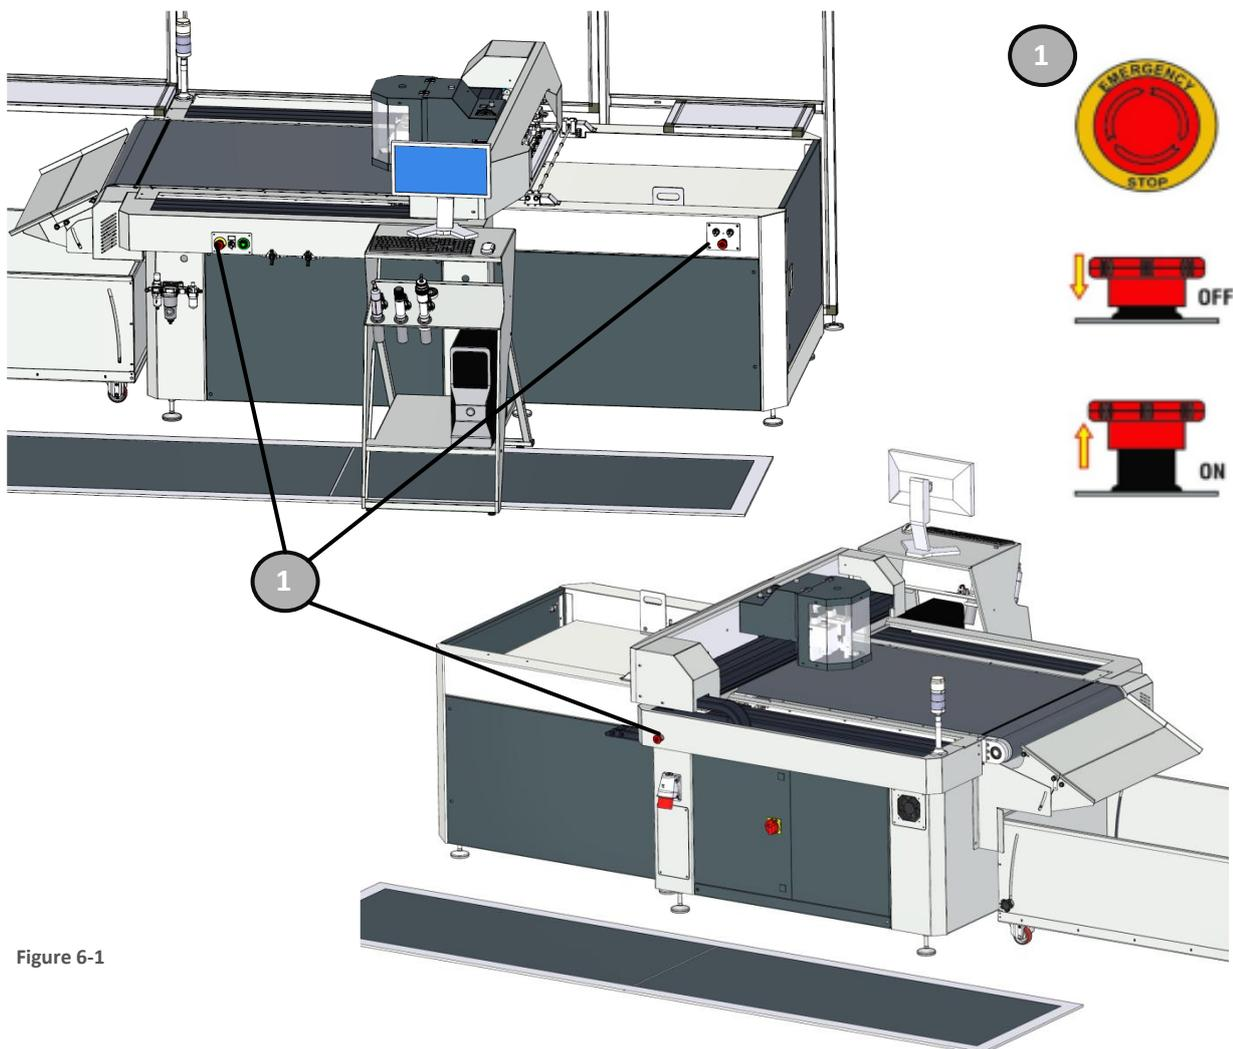

Figure 6-1
Note: *If the button does not light up, check if any of the emergency buttons - Figure 6-1 - were pressed down, if so disarm them (see par. 6.1) and repeat the pressure of the Machine Power key.*
- In case of danger, it will be sufficient to press the emergency button to instantly block and cut power off to the machine. Figure 6-1.